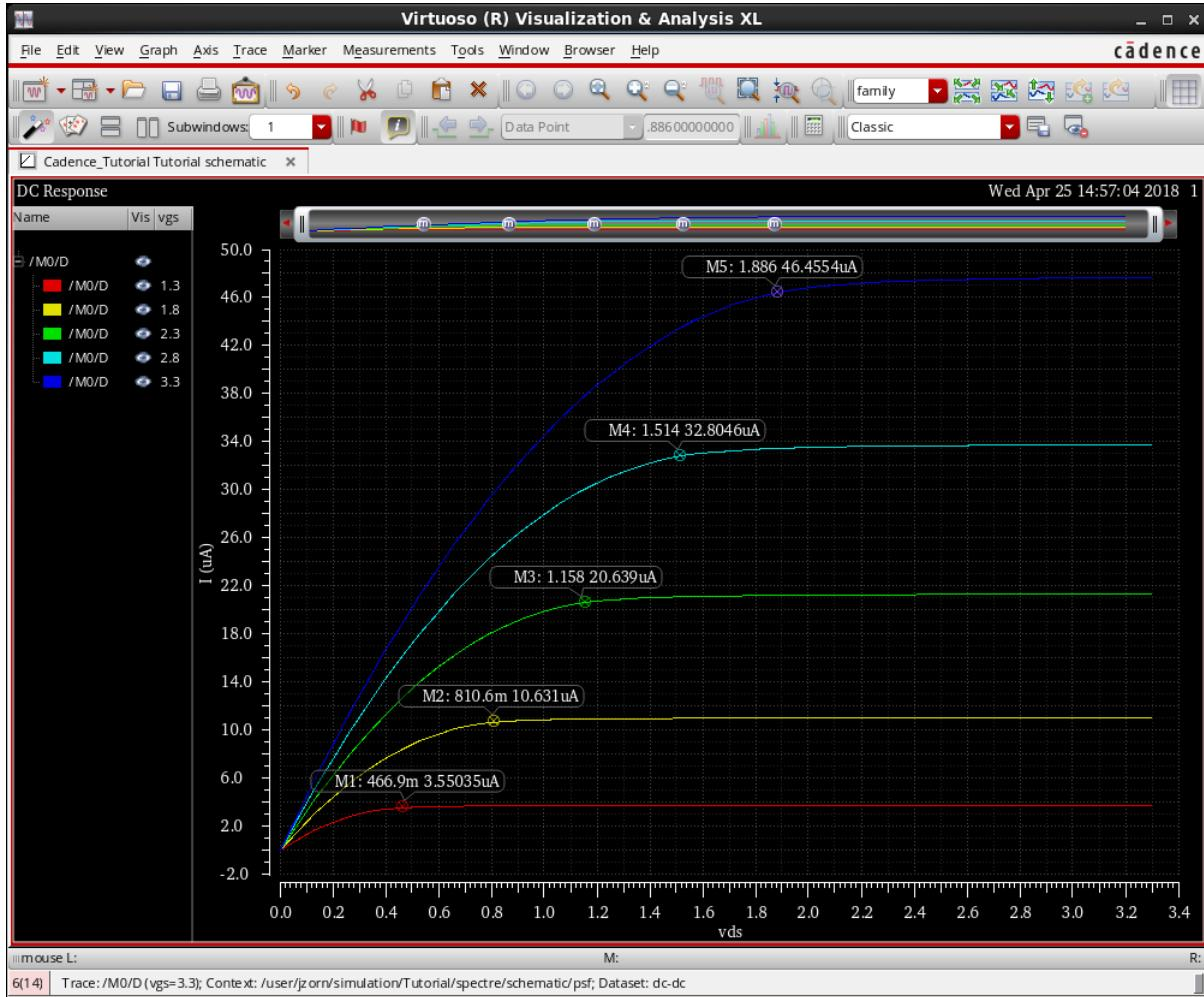

Figure 157: Characteristic curve of drain-source voltages with variable gate-source voltages
When you run the parameterized simulation, five curves are generated that correspond to DC sweeps over the defined drain-source voltage range with different gate-source voltages as coulter parameters. According to Formula (1), we also expect a higher current through the transistor for increasing gate-source voltages. Figure 157 shows the five simulated curves.